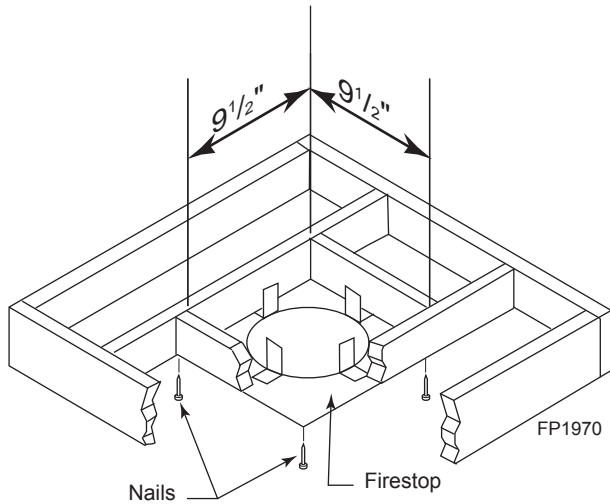

Figure 31 -
1. Cut a 9½" (241 mm) square hole in the ceiling using the locating hole as a center point The opening should be framed to 9½" x 9½" (241 x 241 mm) inside dimensions as shown in Figure 31 using framing lumber the same size as the ceiling joist. If the area above the ceiling is an insulated ceiling or a room, nail firestop from the top